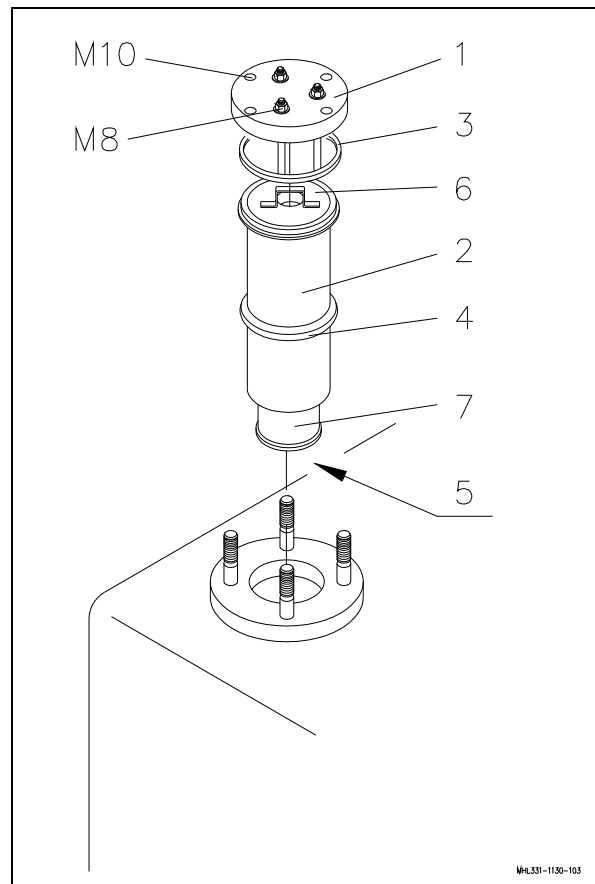

Fig. 103 Return filters
- If necessary, adjust the distance using the three M8 set screw (see fig. 103) and lock.